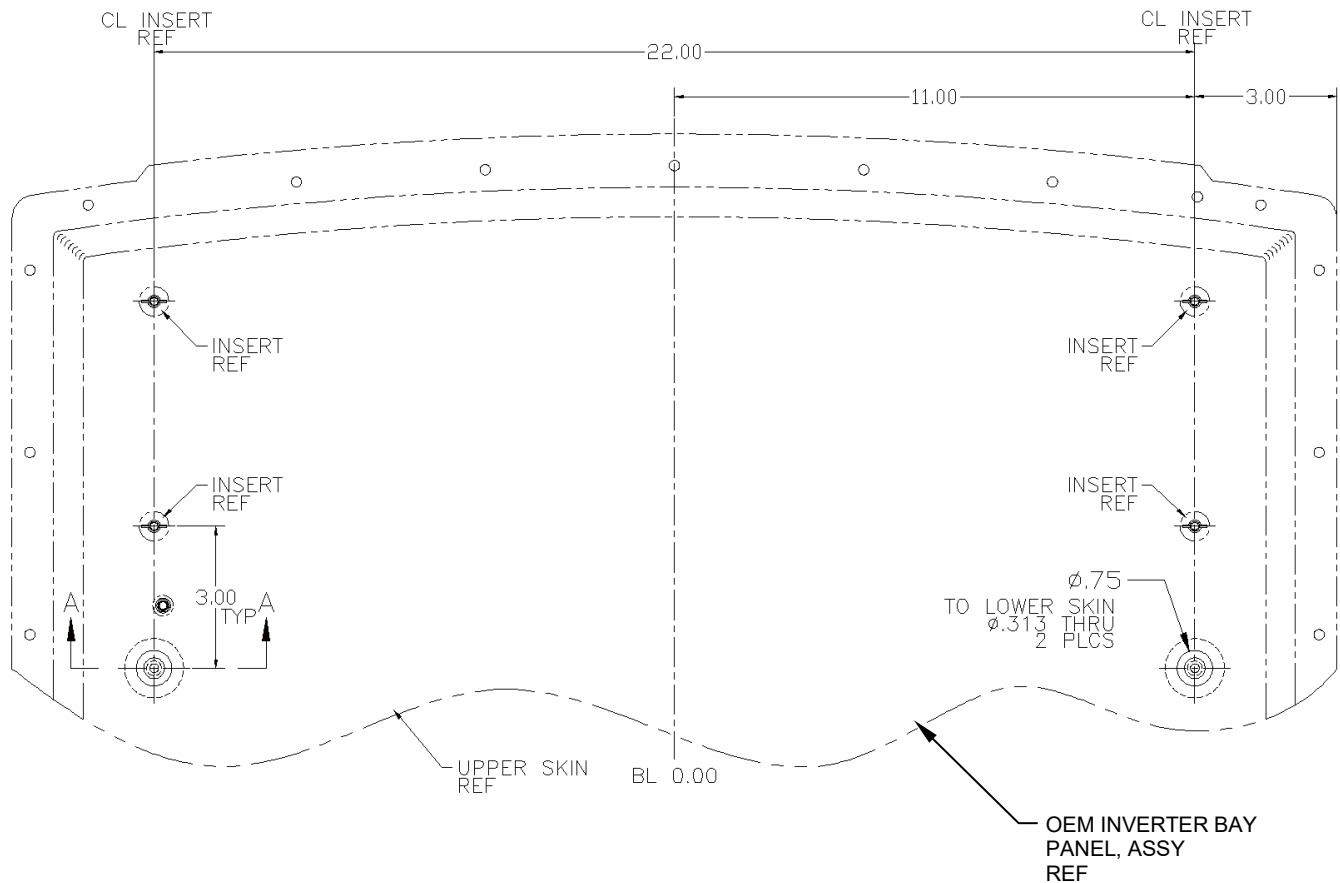

Figure 7
13. Mark the location of wire holes in the inverter bay panel in accordance with the dimensions outlined below. Reference Figure 7.
14. Drill and epoxy the wire holes as per standard practices outlined in Bell Structural Repair Manual BHT-ALL-SRM. Reference Figure 7.
15. Install the Grommets (Item 38) in the lower skin of inverter bay panel as shown. Reference Figures 7 & 8.